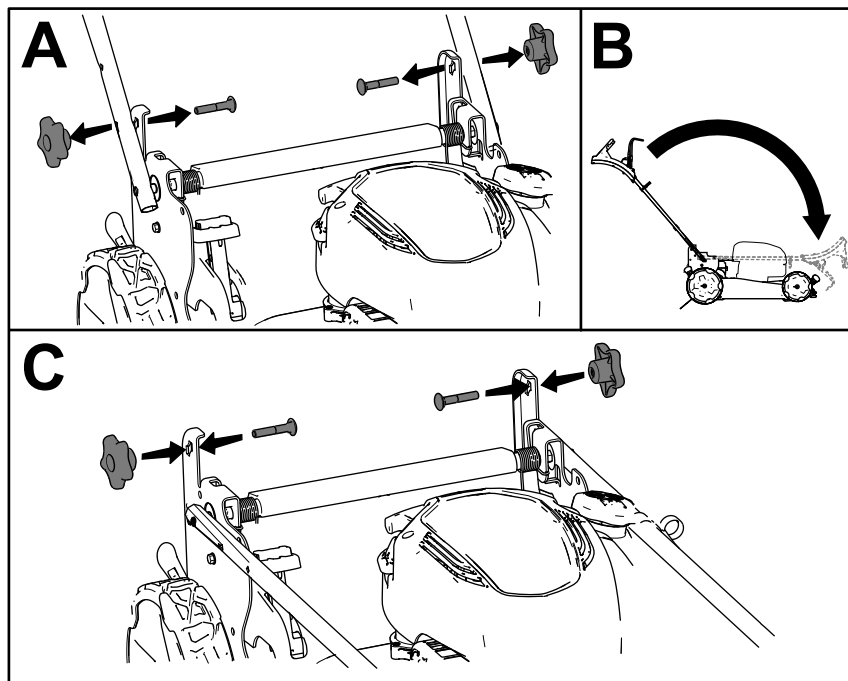

Figure 19
1. Remove and save the 2 handle knobs and 2 carriage bolts from the handle brackets (A of Figure 19).
2. Fold the handle by rotating it forward (B of Figure 19).
3. Loosely install the handle knobs and carriage bolts on the handle brackets (C of Figure 19).